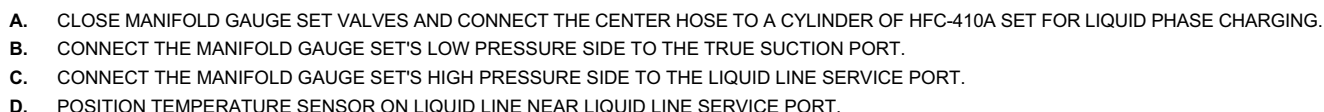

Figure 55. Gauge Set Connections
1. Connect a gauge set for testing and charging as illustrated in figure 55.